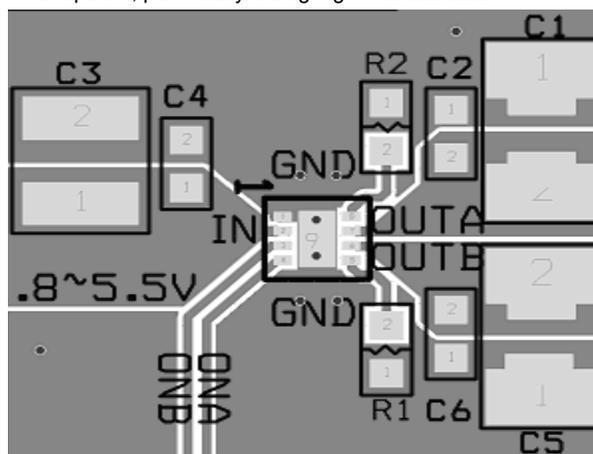

Figure 39. Proper Layout of Output and Ground Copper Area
3. The IN, OUTs, and GND pins dissipate most of the heat generated during a high-load current condition. The layout suggested in Figure 39 illustrates a proper layout for devices in MLP 3x3mm packages. IN, OUTs, and GND pins are connected to adequate copper so that heat may be transferred as efficiently as possible out of the device. The low-power FLAGB and ON pins' traces may be laid-out diagonally from the device to maximize the area available to the ground pad. Placing the input and output capacitors as close to the device as possible also contributes to heat dissipation, particularly during high load currents.